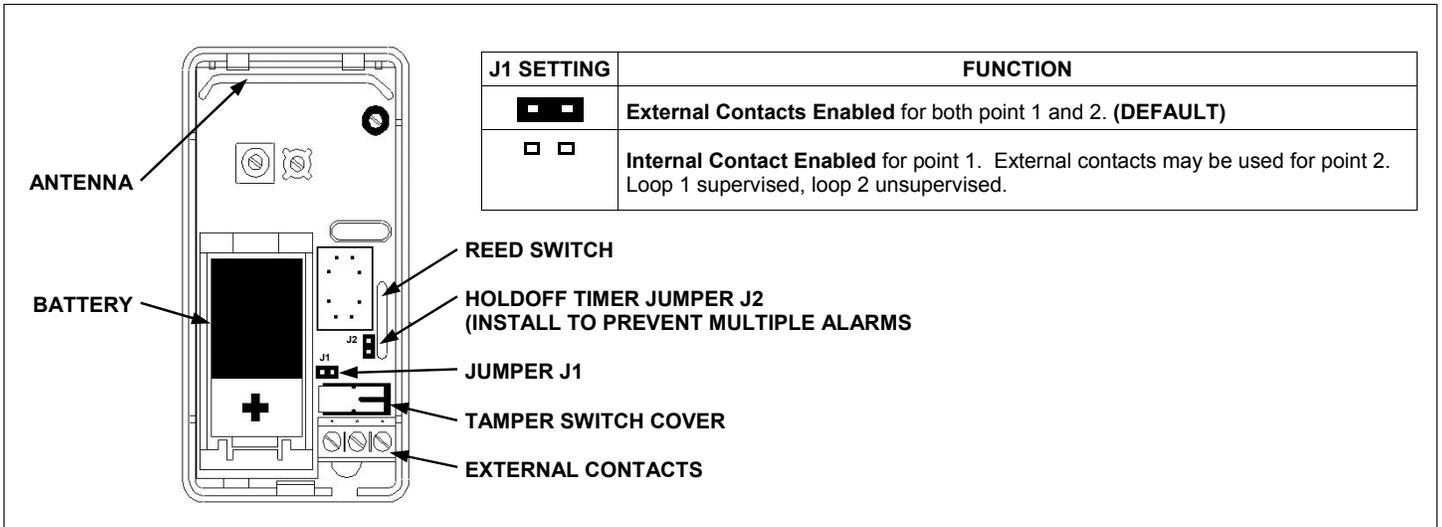

Fig. 4. Location of Parts
- Identify transmitter parts.** Refer to Fig. 4.
- Complete transmitter setup.** Install Jumper J2 (see Fig. 4) to enable the holdoff timer (after triggering, unit waits 3 minutes before retriggering). For example, if used on doors in heavy traffic areas, this will prevent multiple alarms and thus conserve battery life. **Note:** If J2 is installed, both points will be delayed 3 minutes before retriggering. If internal reed switch is used, remove Jumper J1 (see Fig. 4) and short Point-1 (Terminals 1-2). An external contact may be connected to point 2.